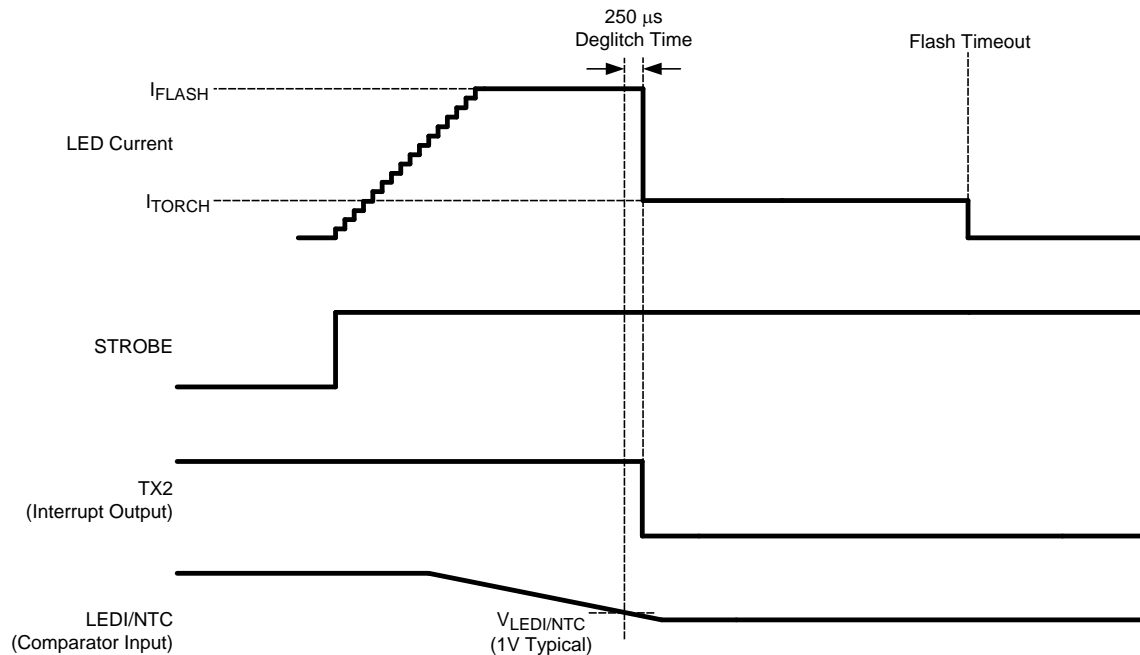

Figure 7. TX2 As an Interrupt Output (During an NTC Event)
3. The LM3559 is configured for VIN Flash Monitor mode (VIN Monitor Register bit [3] = 1) and VIN falls below the programmed VIN Flash Monitor Threshold. Figure 7 details the functionality of the TX2/INT/GPIO2 input.